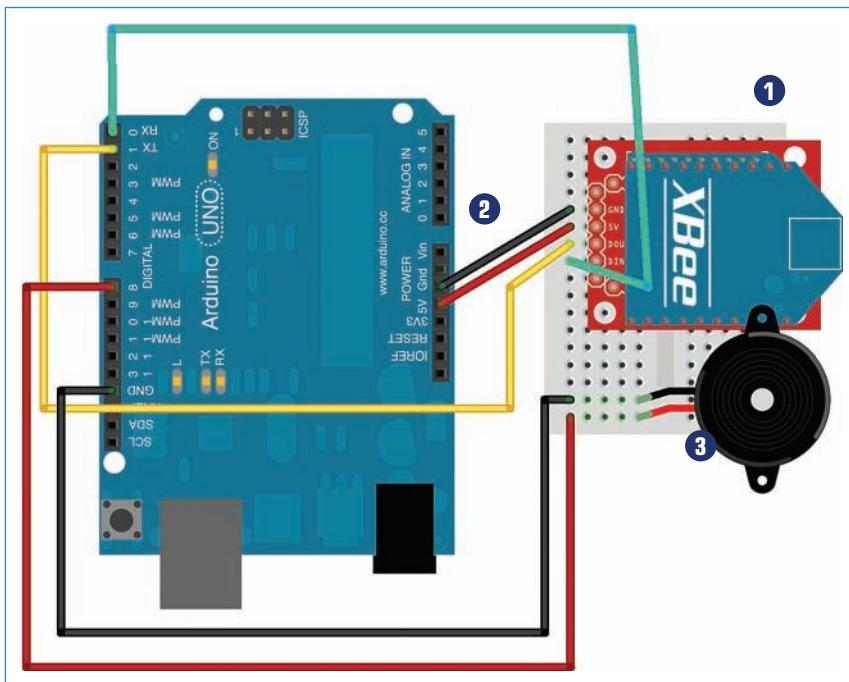

FIGURE 4.13 The buzzer unit consists of an Arduino, XBee, and buzzer.
Next, use Figure 4.13 as a guide for connecting the various parts:
3. Connect the buzzer’s leads to the breadboard as well, as shown in Figure 4.13. You can connect them directly to the Arduino if you want—if you go this route, connect the red wire to pin 8 and the black wire to any free GND.